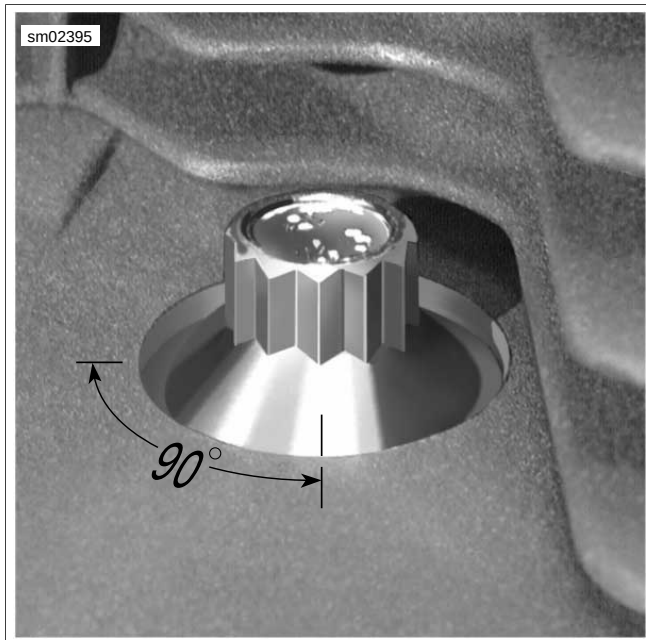

Figure 3-80. Final Tightening for Cylinder Head Bolts
6. See Figure 3-80. Final-tighten each bolt an additional 90 degrees (90 degrees) in the same sequence. For best results, use SNAP-ON TORQUE ANGLE GAUGE (Part No. TA360).